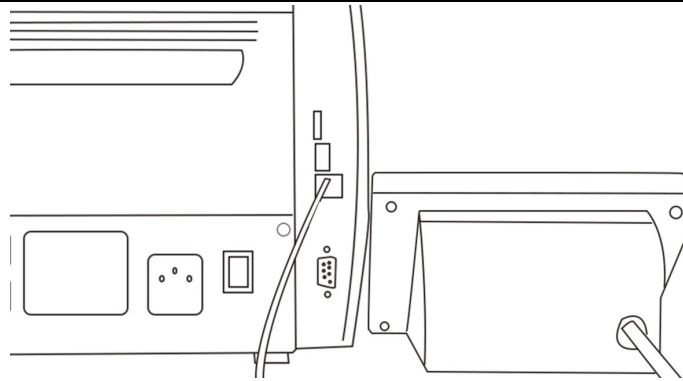

Figure 69
1) Plug the RJ12 connector for the external monitor into the RJ12 interface on the back of the machine, as shown in Figure 69: